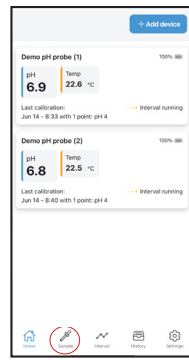

Figure 1
- Select **Sample** from the bottom menu bar (Figure 1)